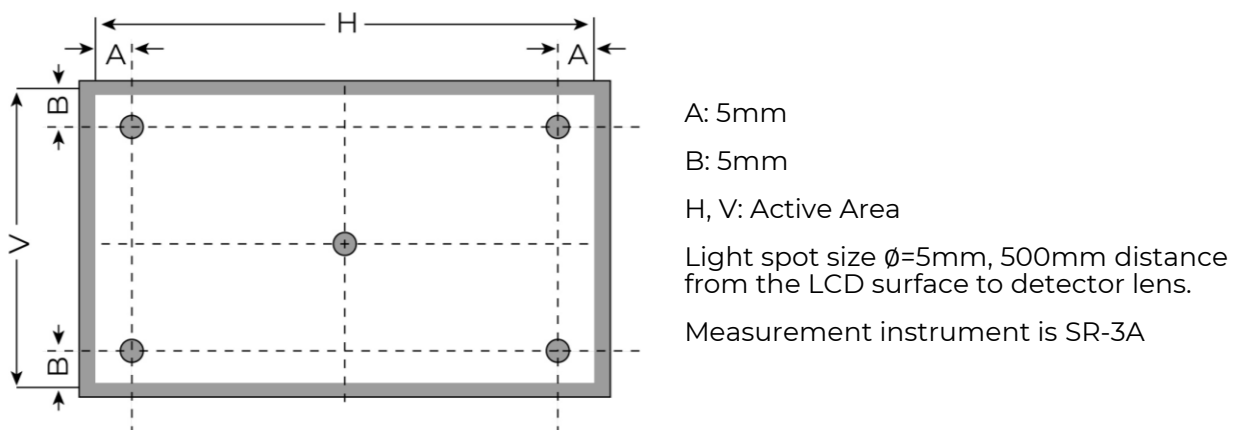

Figure 3. Measuring method for Contrast ratio, surface luminance, Luminance uniformity, CIE (x, y) chromaticity
**Note 1.** Contrast Ratio (CR) is defined mathematically as below, for more information see Figure 3.
**Note 2.** Surface luminance is the LCD surface from the surface with all pixels displaying white at 100% backlight. For more information see Figure 3.
**Note 3.** The uniformity in surface luminance  $\delta$  WHITE is determined by measuring luminance at each test position 1 through 5, and then dividing the minimum luminance of 5 points luminance by maximum luminance of 5 points luminance. For more information see Figure 3.